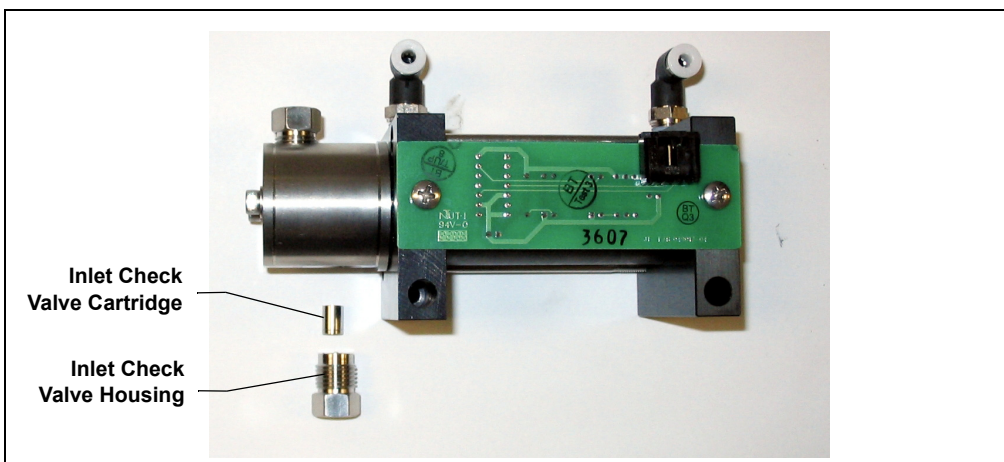

Figure 5-8. Disassembled Dionex ASE 150 Pump Inlet Check Valve
1. Use a 1/2-inch open-end wrench to loosen the *inlet* check valve housing. Remove the housing and then remove the check valve cartridge from the housing (see Figure 5-8).